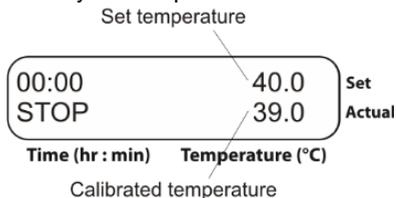

Fig. 5. Display in operation mode after calibration
- 5.4.8. The display will show calibrated temperature as shown on fig. 5 and the unit will continue thermal stabilization according to the previously set temperature.